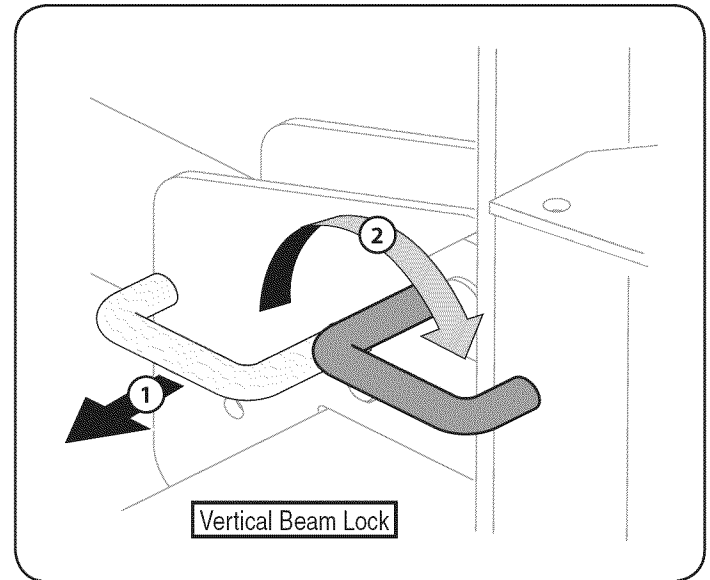

Figure 13
2. To lock the beam in the vertical position, pull out on the vertical beam lock and rotate it to secure the beam. See Figure 13.